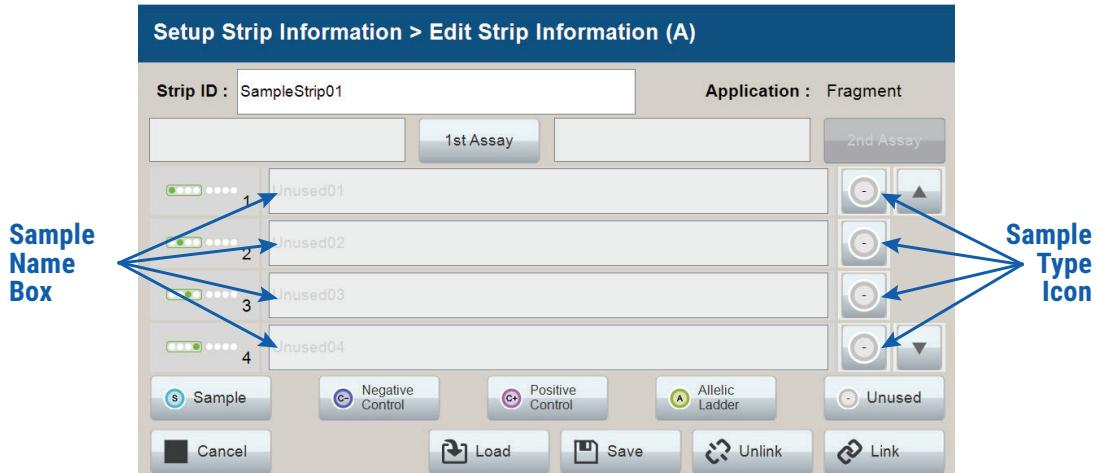
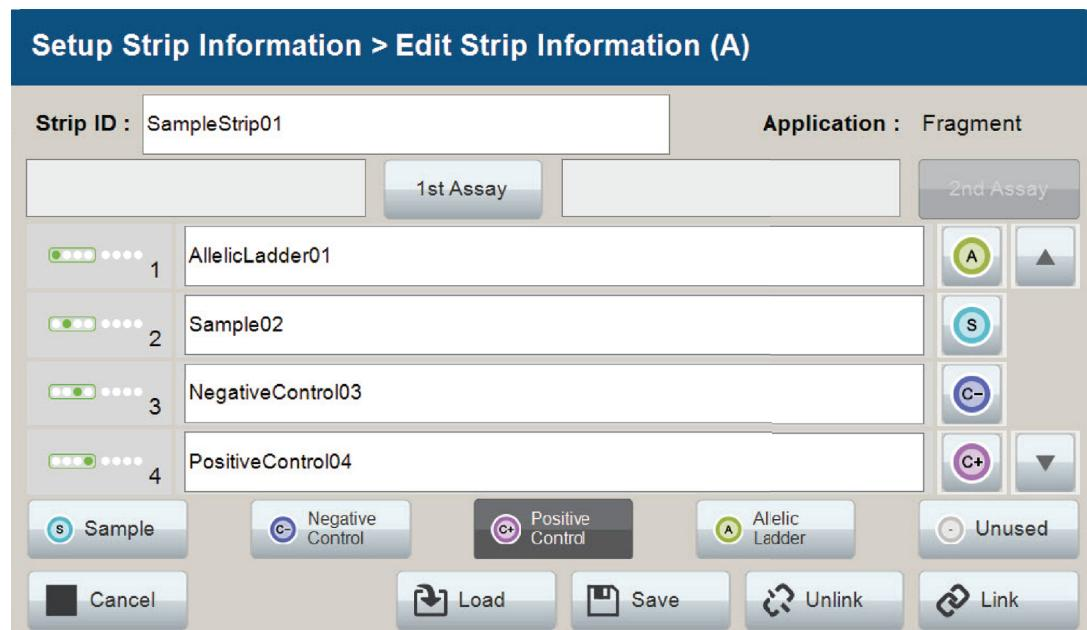
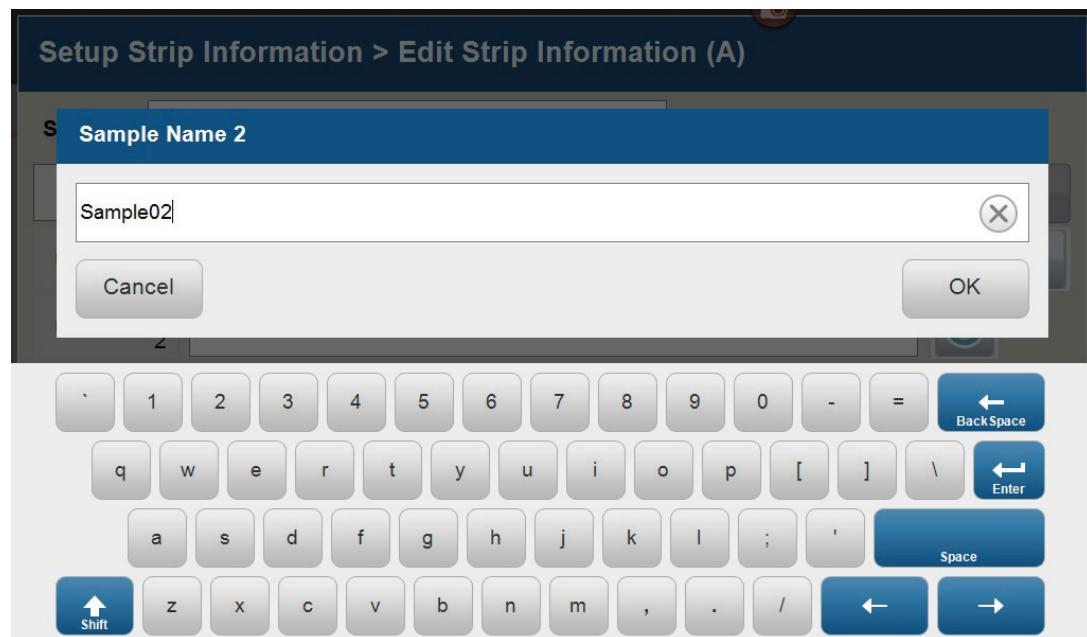
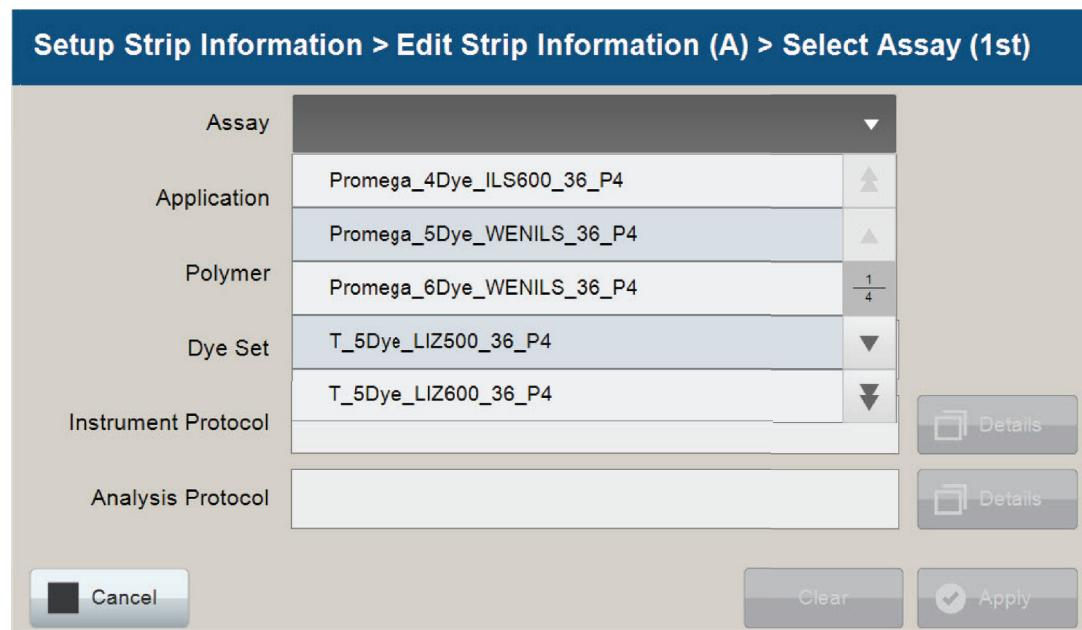

Figure 13. Sample Type and Sample Name on 'Edit Strip Information' screen.
Figure 14. Sample Name Entry on 'Edit Strip Information' screen.
Figure 15. 'Set Sample Name' window.
Figure 16. 'Select Assay' window.
4. Select a sample type on the 'Edit Strip Information' screen (Figure 13). Sample types must be selected for each well position before the Sample Name box becomes active for entry of sample name. Sample types are as follows.
5. To assign a sample type to a well, select the appropriate sample type along the bottom of the 'Edit Strip Information' screen (Figure 13), then select the **Sample Type** icon to the right of the sample name field for the desired well. This icon will then display the sample type selected for that well (Figure 14).
6. Enter a sample name for each well position by selecting the Sample Name box adjacent to the well number on the 'Edit Strip Information' screen (Figure 14). This opens the 'Set Sample Name' window and a keypad will become active on the touch screen (Figure 15). Alternatively, the Sample Name can be entered using a traditional keyboard if one is connected to the Spectrum Compact CE System. Enter the appropriate sample name, then select **OK** to exit and return to the 'Edit Strip Information' screen.
7. The Spectrum Compact Control Software includes preloaded run assays for use with chemistries available from Promega. Refer to the *Spectrum Compact CE System Operating Manual* #TMD058 for information on creating or modifying assays. To assign a run assay to an injection set, select **1st Assay** on the right side of the 1st Assay field (Figure 14). This opens the 'Select Assay' window (Figure 16). Select "Promega_6Dye_WENILS_36_P4" from the drop-down list (Figure 16) and then select **Apply**.